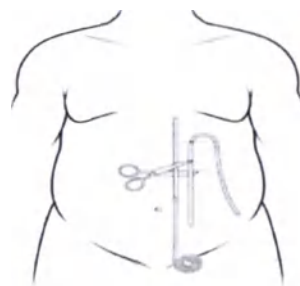

Figure 9
4. Using the provided tape measure, measure the distance between the secondary incision site, Rectangle : , and the chosen union site. See Figure 9. Record that distance in centimeters, as "B". This will be the length needed of the Upper Catheter tubing from the marker ring to the catheter union site.
5. Subtract B from A to get the length of Lower Catheter tubing needed to reach from the location of the deep cuff under the fascia to the location of the catheter union. Record that distance in centimeters, as "C". See Figure 9.